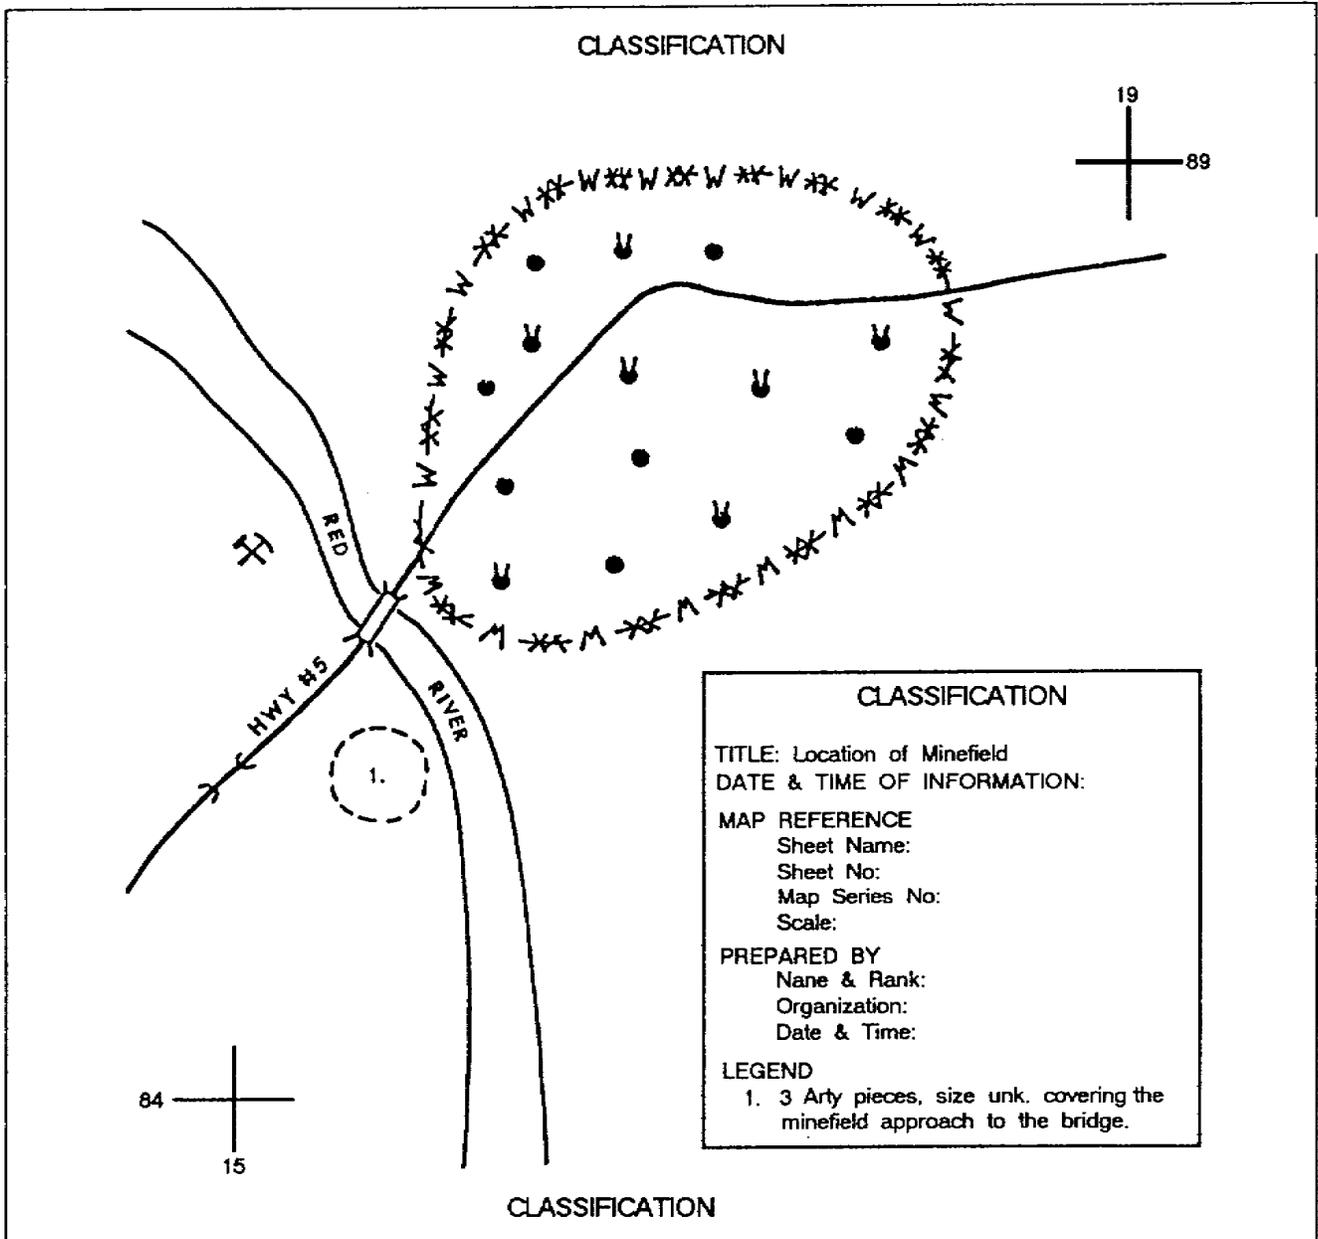

Figure 1-10. Map overlay with marginal information
c. Marginal Information. The addition of marginal information on your overlay is important. When you complete plotting or tracing all required information on your overlay, you print the marginal information as close to the lower right-hand corner as possible. The marginal information may include the following (see figure 1-10).
(1) Classification. The security classification must correspond to the highest classification of the map or the information contained on the overlay. If unclassified, so state.